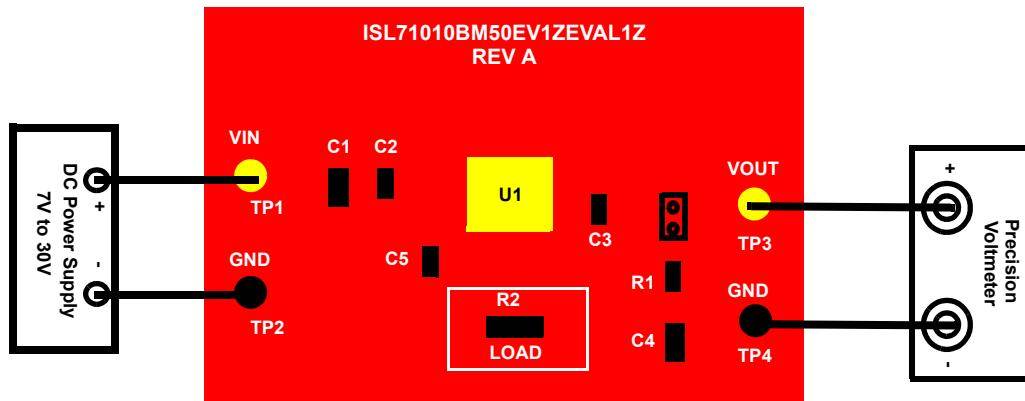

Figure 2. Basic Evaluation Test Setup Block Diagram (Measure V_{OUT} of the Voltage Reference)
- (1) Gather the external supply and equipment needed to operate the board:
- (2) Attach the evaluation board to a DC power supply at test points TP1 and TP2 labeled VIN and GND as shown in Figure 2. Attach the positive terminal at VIN (TP1) and the negative terminal at GND. The supply should be capable of delivering 7V to 30V and 100mA of current.
- (3) Connect a precision voltmeter at test points TP3 and TP4 labeled VOUT and GND as indicated in Figure 2.
- (4) Set the supply voltage to 10V.
- (5) Turn the DC power supply ON. The voltmeter should read $5.0V \pm 0.05\%$.
- (6) Change the DC power supply voltage to 20V. The voltmeter should continue to read 5.0V.
- (7) Vary the DC power supply voltage over the range of 7V to 30V and the voltmeter should continue to read 5.0V.
- (8) Performance at different resistive loads can be evaluated by changing R_2 with different resistor values.